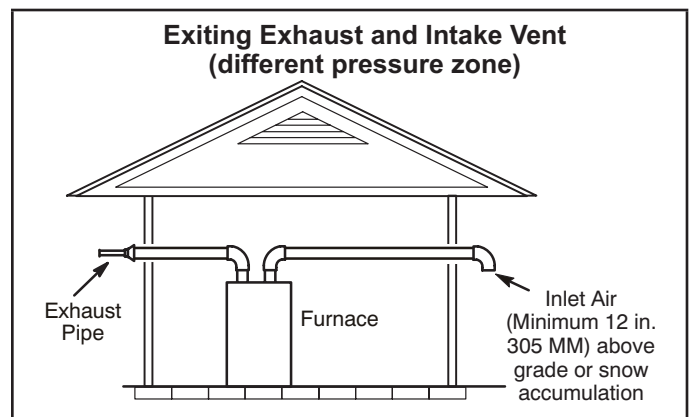
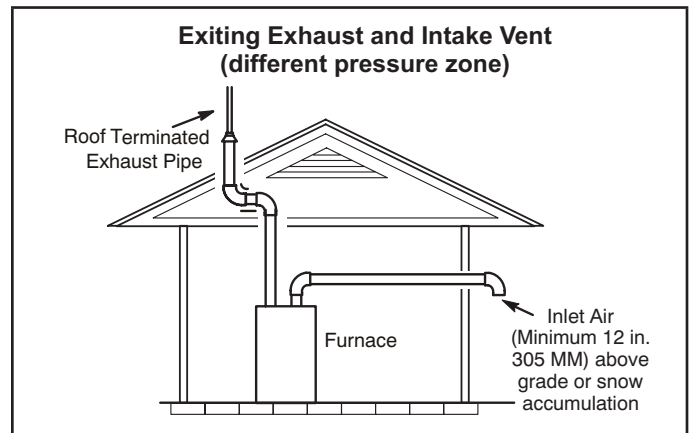

FIGURE 31
FIGURE 32
- 1 - Intake and exhaust terminations are not required to be in the same pressure zone. You may exit the intake on one side of the structure and the exhaust on another side (FIGURE 31). You may exit the exhaust out the roof and the intake out the side of the structure (FIGURE 32).
- 2 - Use a large flat head screw driver or a 1/2" drive socket extension and remove plug (figure 31) from the cold end header box at the appropriate location on the side of the unit. Install provided 3/4 NPT street elbow fitting into cold end header box. Use Teflon tape or appropriate pipe dope.